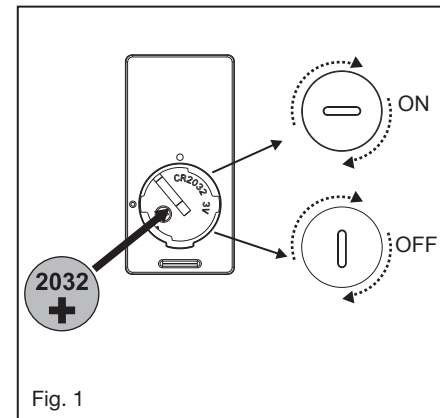

Fig. 1
1. Insert the receiver into the ceiling mounting bracket with the flat side of the receiver facing the ceiling. (Fig. 1) For best performance, make sure the Black Antenna and WiFi Antenna, on the end of the receiver, remains extended and not tangled with any of the electrical wires.
- 1 Remove one of the three screws on the mounting hub located on the fan motor. Loosen the other 2 screws. (Do not remove) (Fig. 1)
- 1 Select a desired location. Use the wall plate to mark the location of the mounting holes. Plastic wall anchors or mounting screws are needed for this application. (Fig. 1)
Remove the panel from the transmitter and then install one 2032 battery (included). You need to use a coin to open or close the battery cover. To prevent damage to transmitter, remove the battery if not use for long periods of time (Fig. 1)